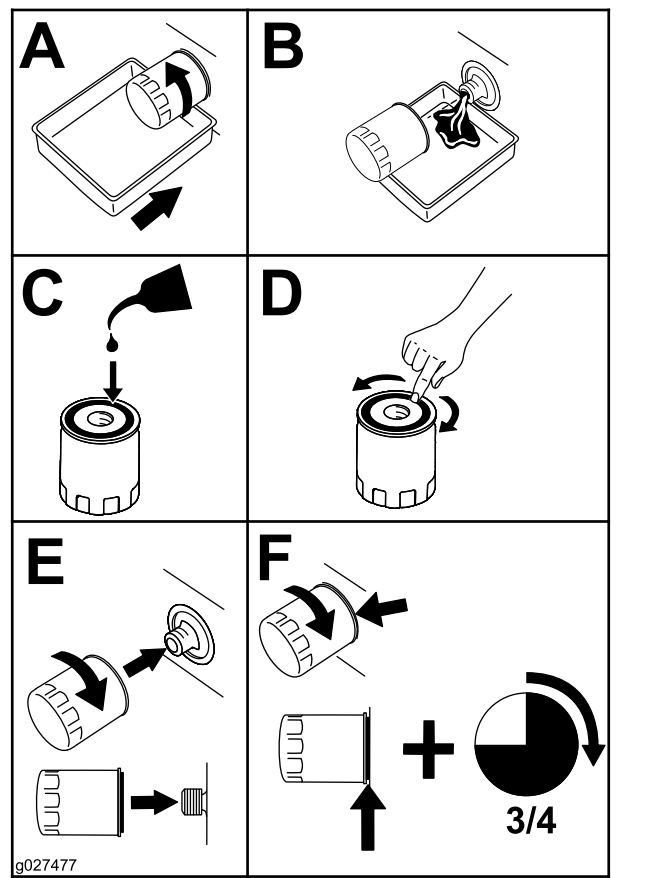

Figure 35
4. Replace the oil filter (Figure 35).